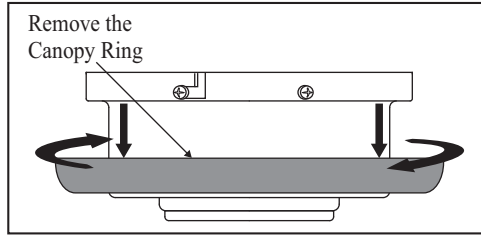

Figure 5
1. Remove the canopy ring from the canopy by turning the canopy ring counterclockwise. (Figure 5)